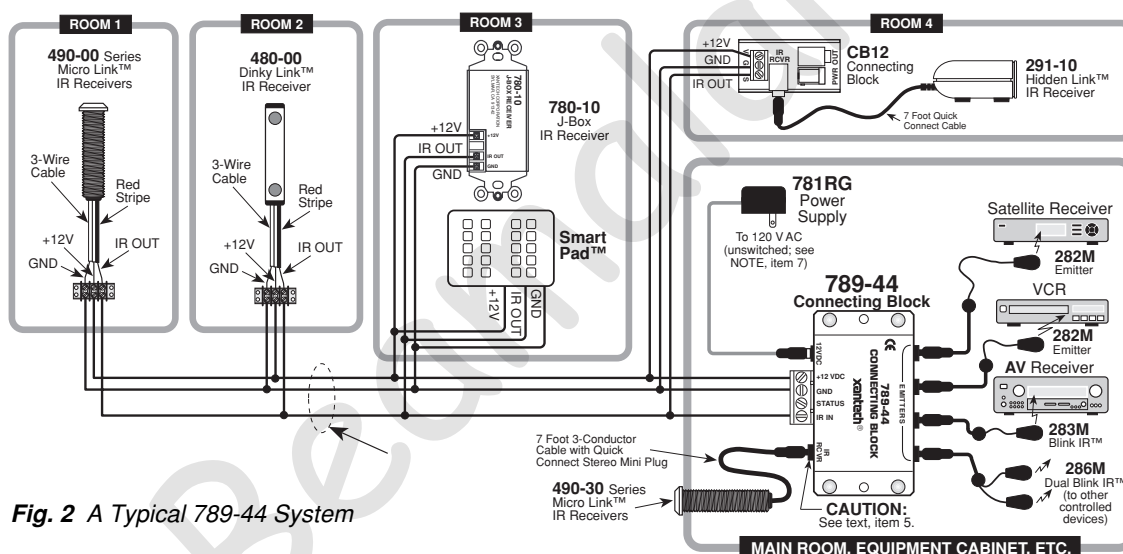
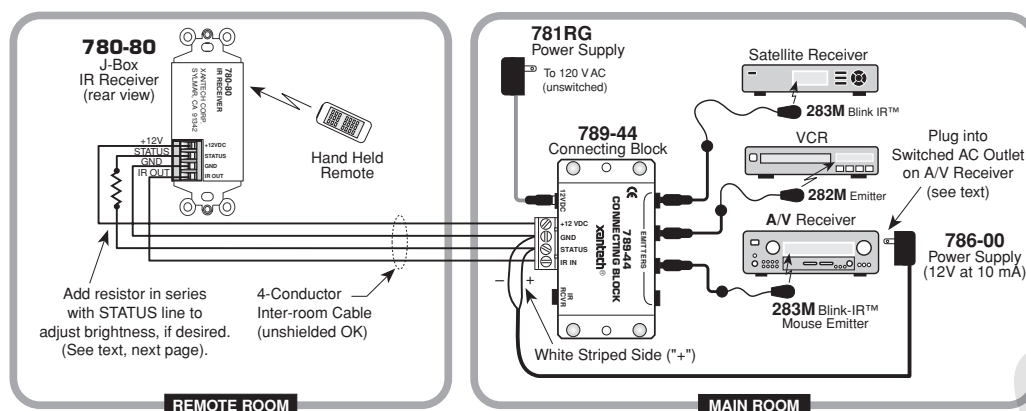

Fig. 2 A Typical 789-44 System
Fig. 3 Using the STATUS terminal in a typical system (see text, pg 4).
The Model 789-44 provides a quick low cost means of connecting Xantech IR receivers and keypads to four single or four dual emitters, with a power supply, in an infrared repeater system. It can also provide emitter expansion for various Xantech devices, such as the 590, 710, 792-10, 795-20, 796-20, etc.. The STATUS terminal provides a convenient tie point for voltage to drive the STATUS indicator on certain Xantech products, such as the 780-80 IR Receiver (refer to **Fig. 3**).
Fig. 2, illustrates a typical installation using the 789-44 in an IR repeater system. A variety of Xantech IR receivers and a keypad are shown. When configuring a system, please keep the following items in mind:
- For clarity, connections in **Fig. 2** are shown going to a 3-conductor bus in a "daisy chain" fashion. In an actual installation, however, it is recommended that 4-conductor "home-runs" be pulled from each room to the 789-44 Connecting Block in the main room. The home-runs maintain higher power supply voltage to each IR receiver and keypad, and the extra 4th wire can be used for "STATUS" if desired (refer to **Fig. 3**).
Fig. 3 illustrates a single zone system where the Status LED on a Xantech 780-80 IR Receiver, in the remote room, shows the ON/OFF status of an A/V receiver.
4. You would then connect the 4-conductor inter-room cable between the 789-44 and the 780-80 as shown in **Fig. 3**.
5. If you wish to adjust the brightness of the Status LED, place a resistor in series with the STATUS lead as shown in **Fig. 3**. Use a value that achieves the desired brightness level (usually 1k Ohm to 10k Ohm, 1/8 watt).